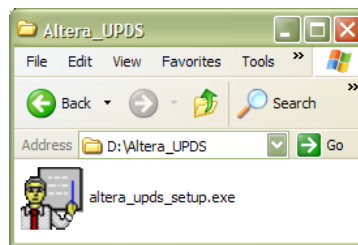

Figure 1. Altera UPDS installer file.
1. Download the Altera UPDS from the University Program section of Altera's website. It can be found by going to [www.altera.com](http://www.altera.com) and clicking on *University Program* under *Education & Events*. Once in the University Program section, click on *Design Software* under *Educational Materials*, and select *Altera Monitor Program*. Download the EXE Install Package and extract it to a directory of your choice. In this tutorial, we have chosen D:\Altera\_UPDS. As shown in Figure 1, the folder will contain a single executable file named *altera\_upds\_setup.exe*.